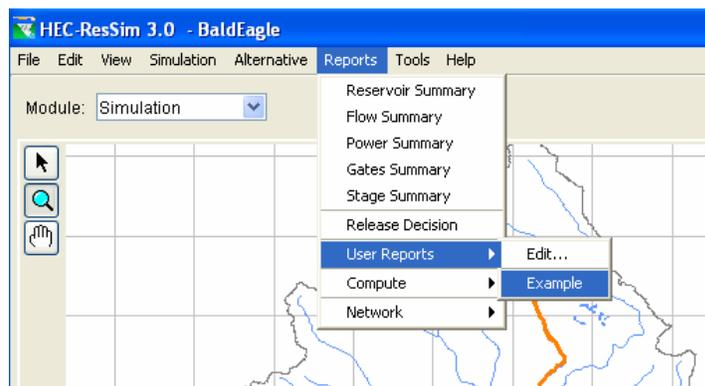

Figure 14.55 Accessing Saved User Reports in the Simulation Module from the Reports Menu
- Completed and saved **User Reports** can be directly accessed in the Simulation module from the **Reports** menu. Select **Reports** → **User Reports** to view a list of current user reports (Figure 14.55). In this example, the only user report created for the “BaldEagle” watershed is named “Example.” Selecting “Example” will bring up the **User Report** previously shown in Figure 14.51.